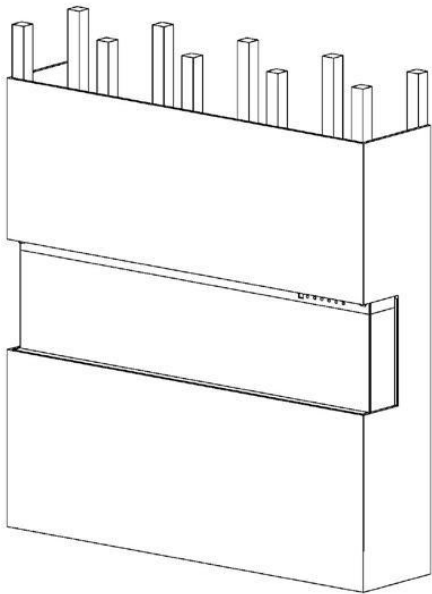

Fig.3-4
7.Cover the glass panel with protective plastic bag and install plywood or drywall. Fig.3-4